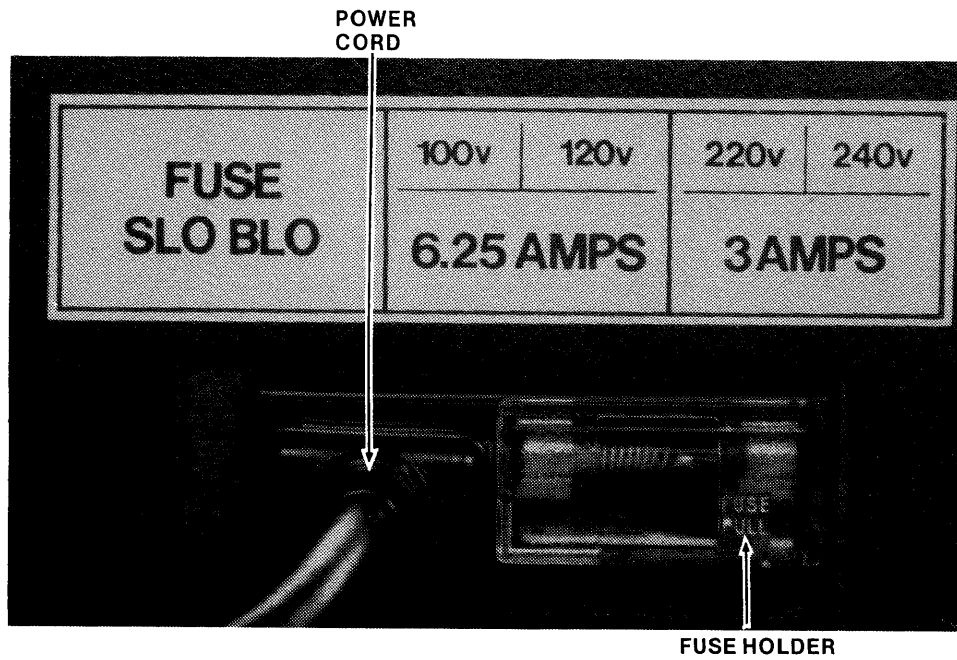

Figure 2-13. Power Cord and Fuse Holder
17. Refer to Figure 2-13. Slide the plastic shield on the main power socket to the left, remove the voltage switching card, and make sure it is inserted correctly for your line voltage. Since the card accomodates four primary voltages, insert it so that you can read your voltage with the card installed. Check the voltage stickers on the disk drive(s). If this rating differs from the factory voltage switching card setting, contact your Intel representative. Check the rating on the installed fuse. Be certain it matches the ratings listed on the sticker directly above the fuse holder. After you have checked the voltage switching card and the fuse, slide the plastic cover back and reconnect the AC power cord.